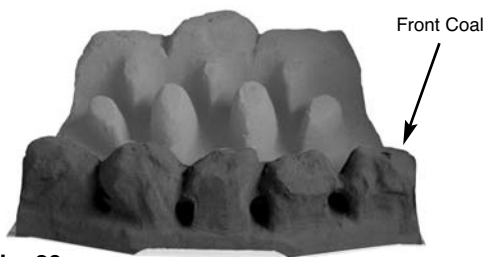

Fig. 20
2. Position the front coal on the front coal retainer, making sure that the back edge is pushed up against the front of the burner strip (Fig. 20).